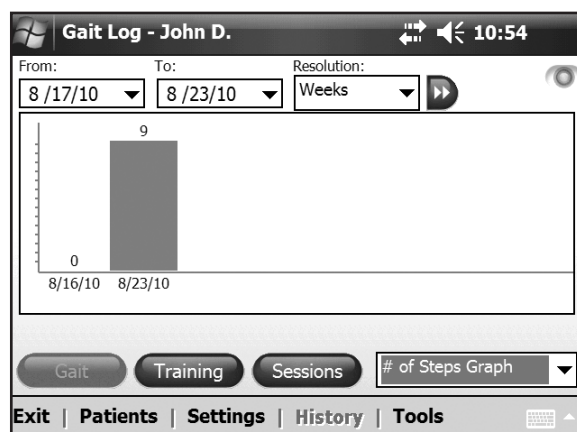

Figure 7-33: Gait Log, # of Steps Graph.
- The **# of Steps Graph** displays the date and the number of steps for each date in a bar graph. See Figure 7-33. Each column represents a day, week, month, or year, per the specified resolution.